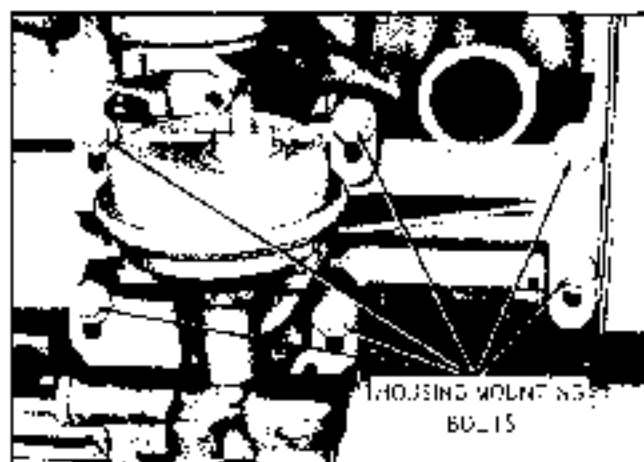

Fig. 6-11 Accessory Drive Housing Mounting Bolts
5. With J 22232-1 installed as above, adjust accessory drive housing (Fig. 6-11) up or down as required to obtain a tension adjustment indicator centered in the green range with drive housing mounting bolts torqued to 15 lb. ft.